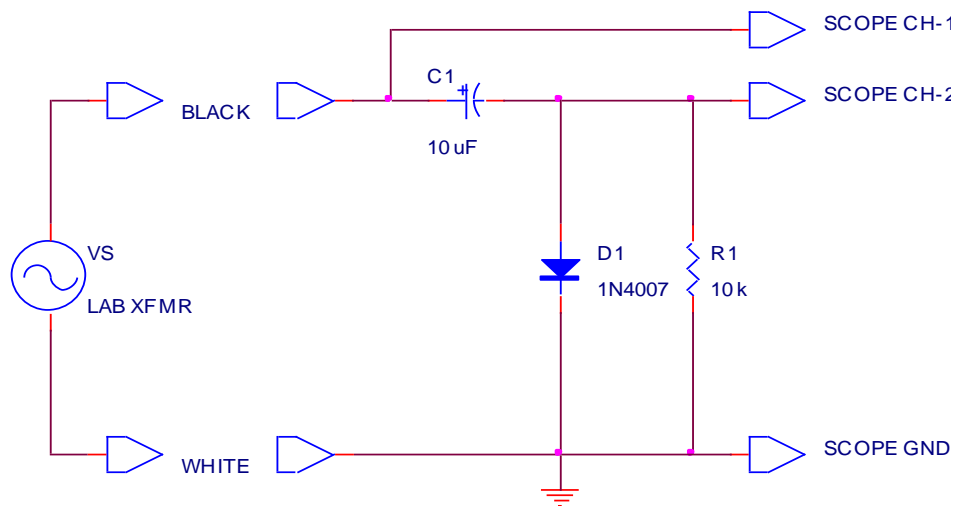

Figure E2.7
Disconnect the lab transformer leads and the oscilloscope probes and then completely disassemble the breadboarded circuit of Procedure 6. Assemble on a solderless breadboard the circuit of Fig. E2.7 below using the following parts:
Connect the black and white banana jack outputs of the lab transformer to the breadboard as shown in Fig. E2.7 to apply a 10 V peak sinewave to the circuit. Keep the lab transformer turned OFF while you are making connections to the circuit. Connect 10 $\times$  oscilloscope probes from channel-1 and channel-2 of the oscilloscope to the points indicated in Fig. E2.7. Connect the oscilloscope ground leads as shown.
**Question-7** The circuit of Fig. E2.7 is termed a negative voltage clamper. Draw the circuit for a positive voltage clamper and discuss any necessary polarity changes on both the diode and/or the capacitor.